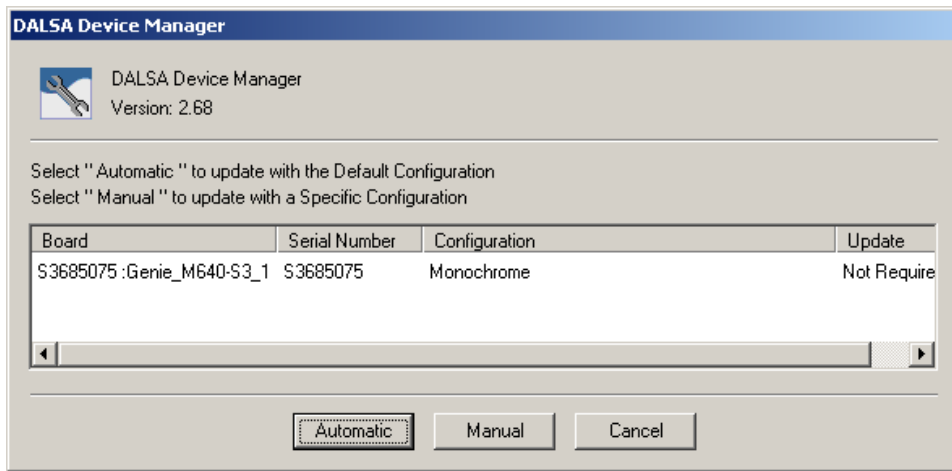

Figure 28. Firmware Update Tool
2. If the "Update" column shows "Not Required" (as shown Figure 28) click "Cancel".